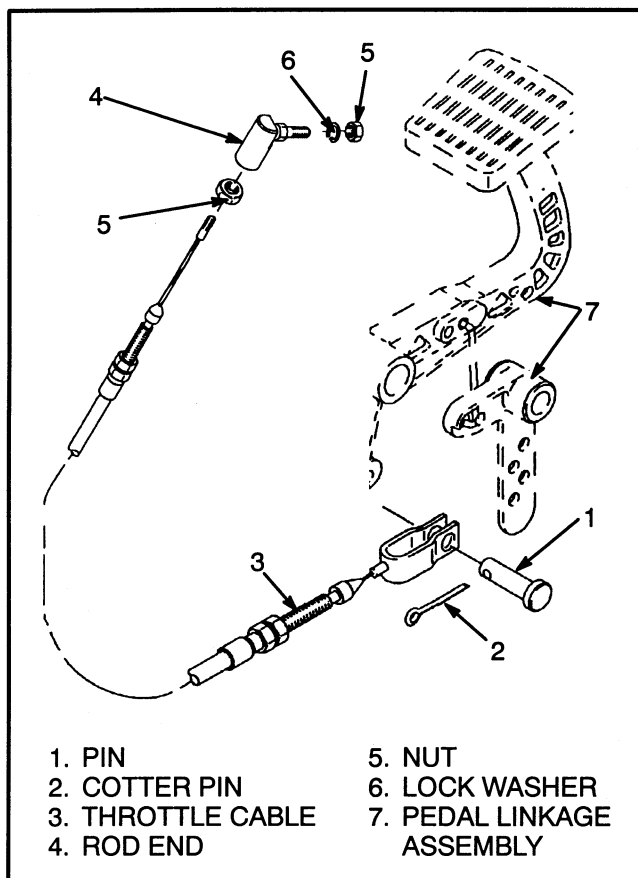
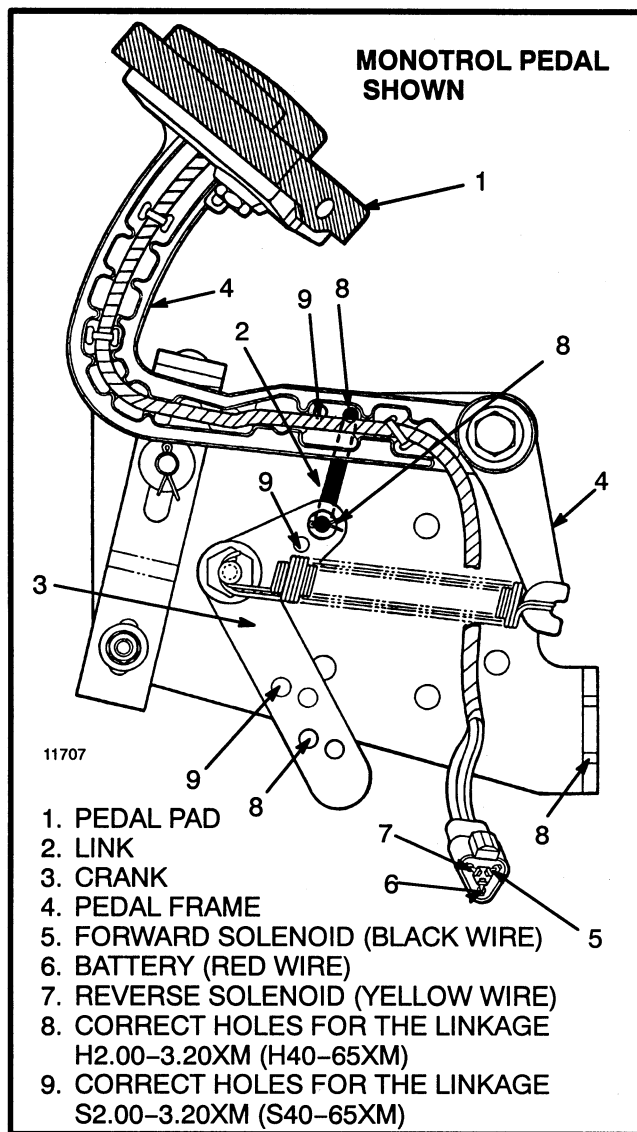

FIGURE 21. THROTTLE CABLE ARRANGEMENT
FIGURE 22. THROTTLE ARRANGEMENT, S/H2.00-3.20XM (S/H40-65XM)
#### **ADJUST THE THROTTLE LINKAGE, S/H2.00-3.20XM (S/H40-65XM) (See FIGURE 21. and FIGURE 22.)**
4. Adjust the pedal return stop (see FIGURE 22.) so that there is no tension on the throttle cable at the idle position. Do the following to check this adjustment:
**CHECK THE MONOTROL PEDAL (See FIGURE 22.)**